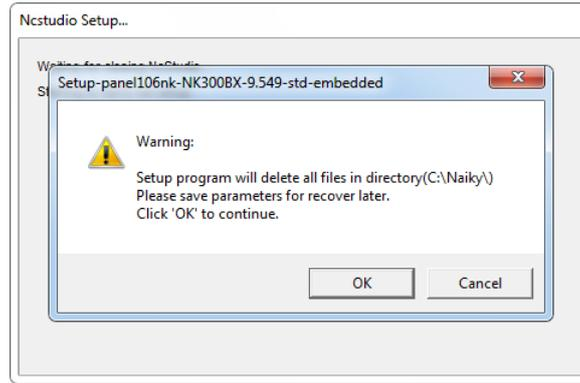

Fig. 4-17 Save parameters before installation
- 3) To avoid the interference of last version of the software to the current software installation, before formal installation begins, a dialog box prompting previous parameter setting saving will pop up, shown in Fig. 4-17. Choose “Yes” to save the parameters and delete the old version software before current software installation begins.